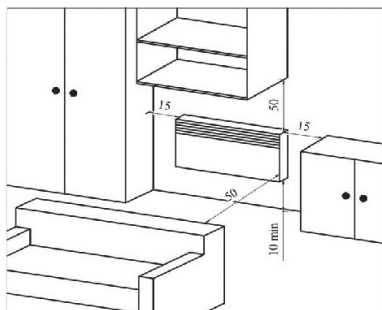

Fig. 2
5.7 The placement of the convector on supports in the room is similar (Fig. 2), while the distance from the rear wall of the convector to objects (furniture, curtains, etc.) should be at least 15 cm.